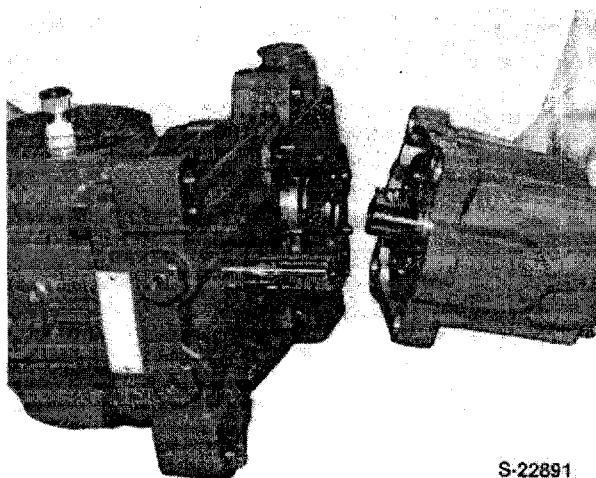

Figure 74
5. Install the assembled motor housing to the port block, Figure 74.